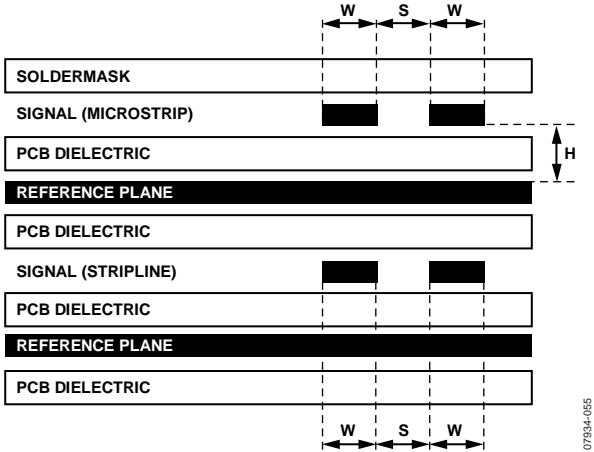

Figure 55. Example of a PCB Cross-Section
The high speed differential inputs and outputs should be routed with 100 Ω controlled impedance differential transmission lines. The transmission lines, either microstrip or stripline, should be referenced to a solid low impedance reference plane. An example of a PCB cross-section is shown in Figure 55. The trace width (W), differential spacing (S), height above reference plane (H), and dielectric constant of the PCB material determine the characteristic impedance. Adjacent channels should be kept apart by a distance greater than 3 W to minimize crosstalk.